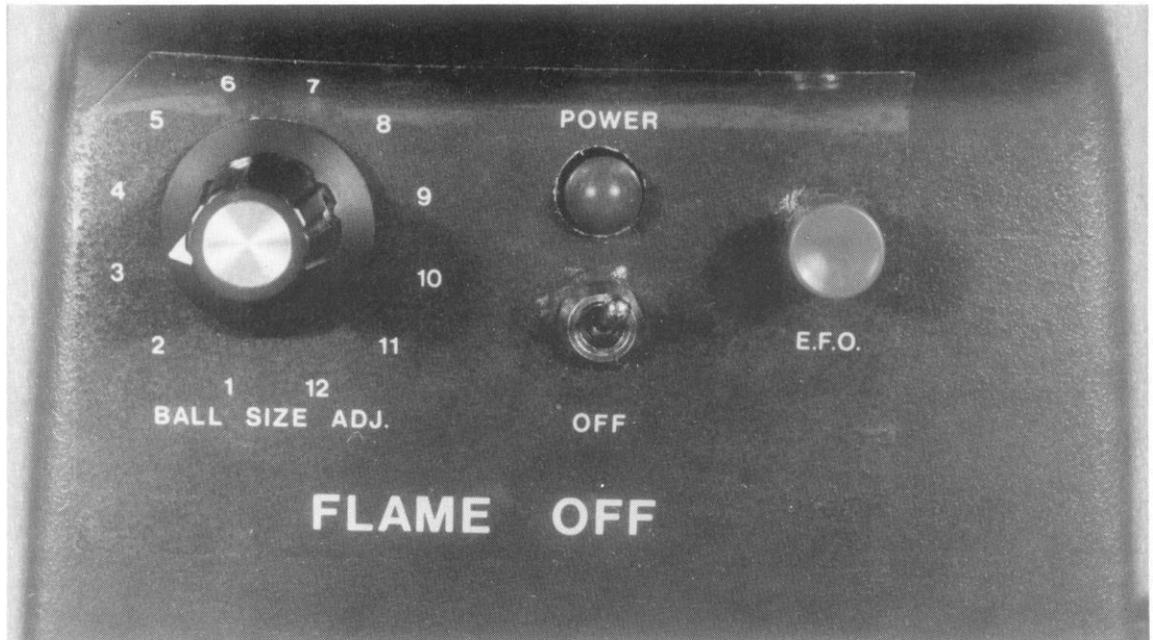

FIG. 4-3 EFO PANEL
4.1.3 EFO PANEL (Fig 4-3) controls EFO functions: